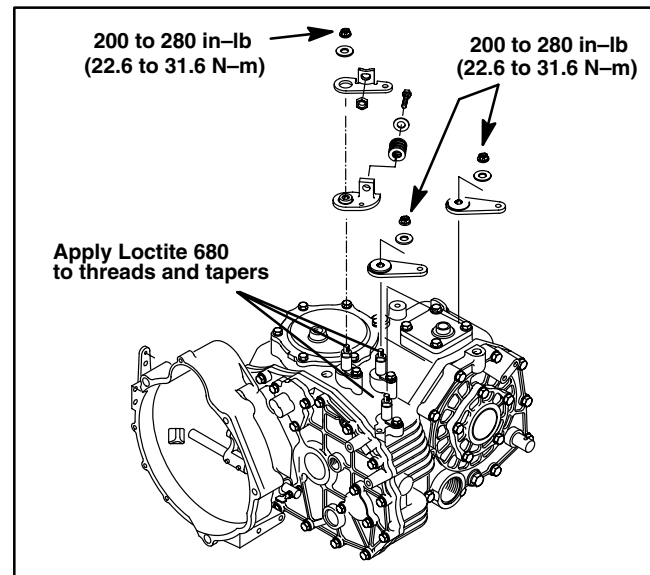

Figure 19
C. Before installing two shift levers and shift arm onto transaxle shafts, thoroughly clean shafts and apply Loctite #680 to threads and tapers of shafts. Secure by torquing nut from 200 to 280 in-lb (22.6 to 31.6 N-m) while holding lever to prevent torque transfer into transaxle (Fig. 19).